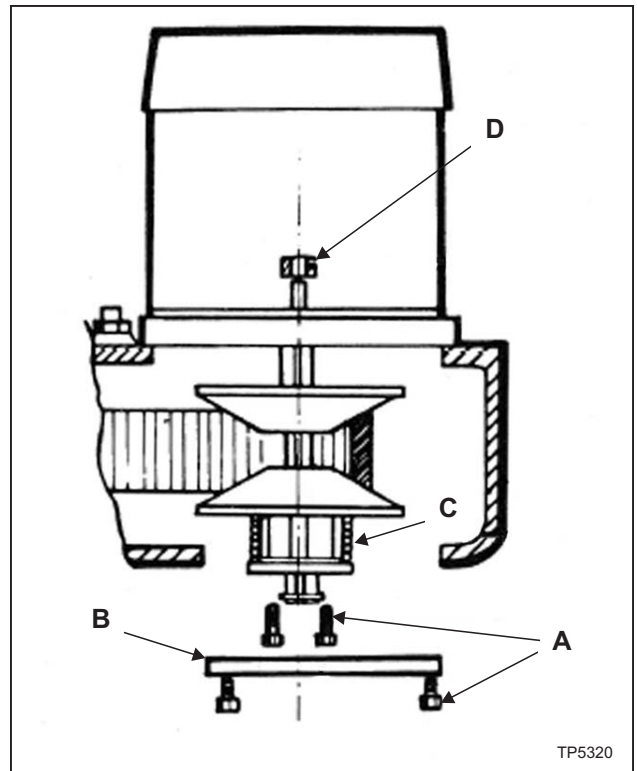

Figure 3.1 - Motor Removal
3. Remove three screws "A" and cover "B", Figure 3.1.